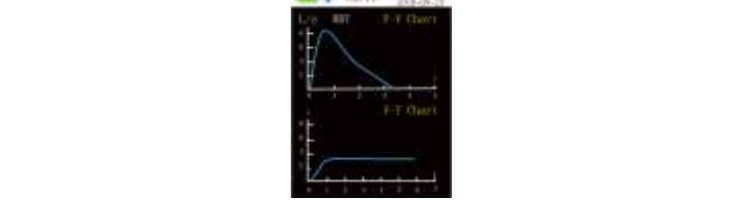

Figure 5 Flow rate-volume chart and Volume-time chart
- "Flow rate-volume chart" and "Volume-time chart" shown as Figure 5 will appear after pressing UP or DOWN key in Main parameter interface, Figure 4 and Figure 5 are the Main interface.